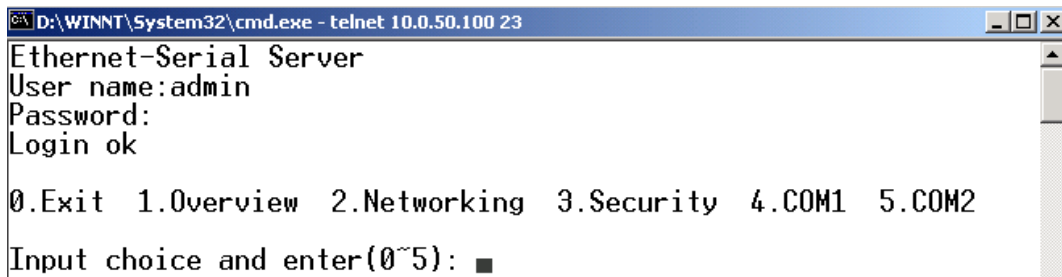

Fig. 10. System main menu
- 1 Then the following main menu shall appear (Fig. 10)